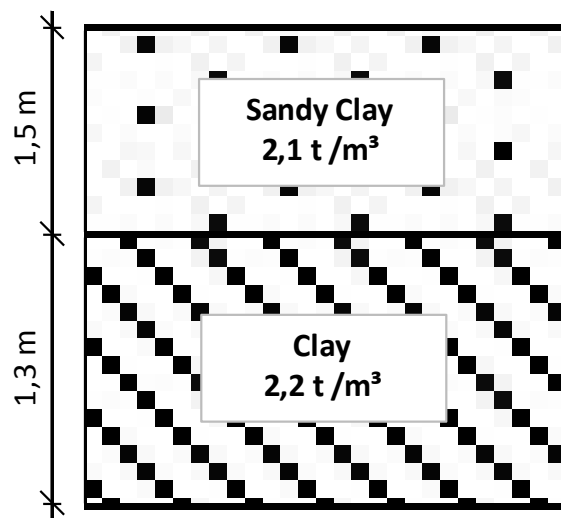

Figure 2- Geotechnical investigations - Vertical cross section
3. The surveys indicate that there are two types of soil whose thicknesses and densities in their natural state are shown in the figure 2 below.
7. The soil was loaded on trucks of 20 tons. Each truck has one (1) cycle each 40 minutes (Load, travel to the dump site, unload, return to the loading unit).